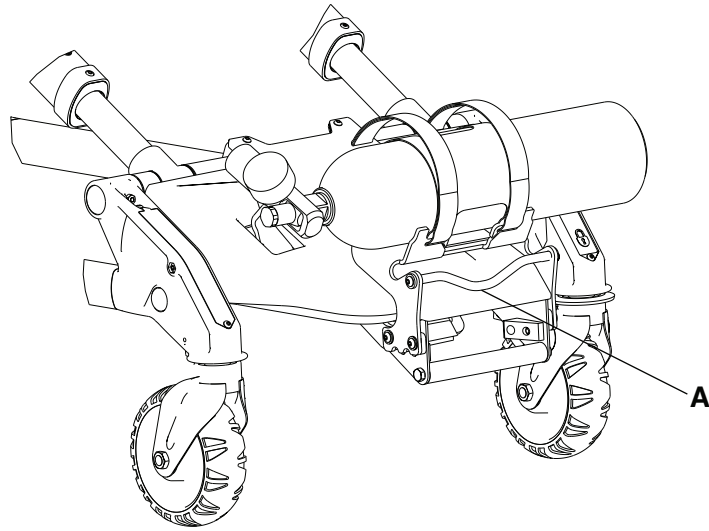

Figure 15 – Winch attachment rod
1. Attach the winch cable to the winch attachment rod (A) (Figure 15).